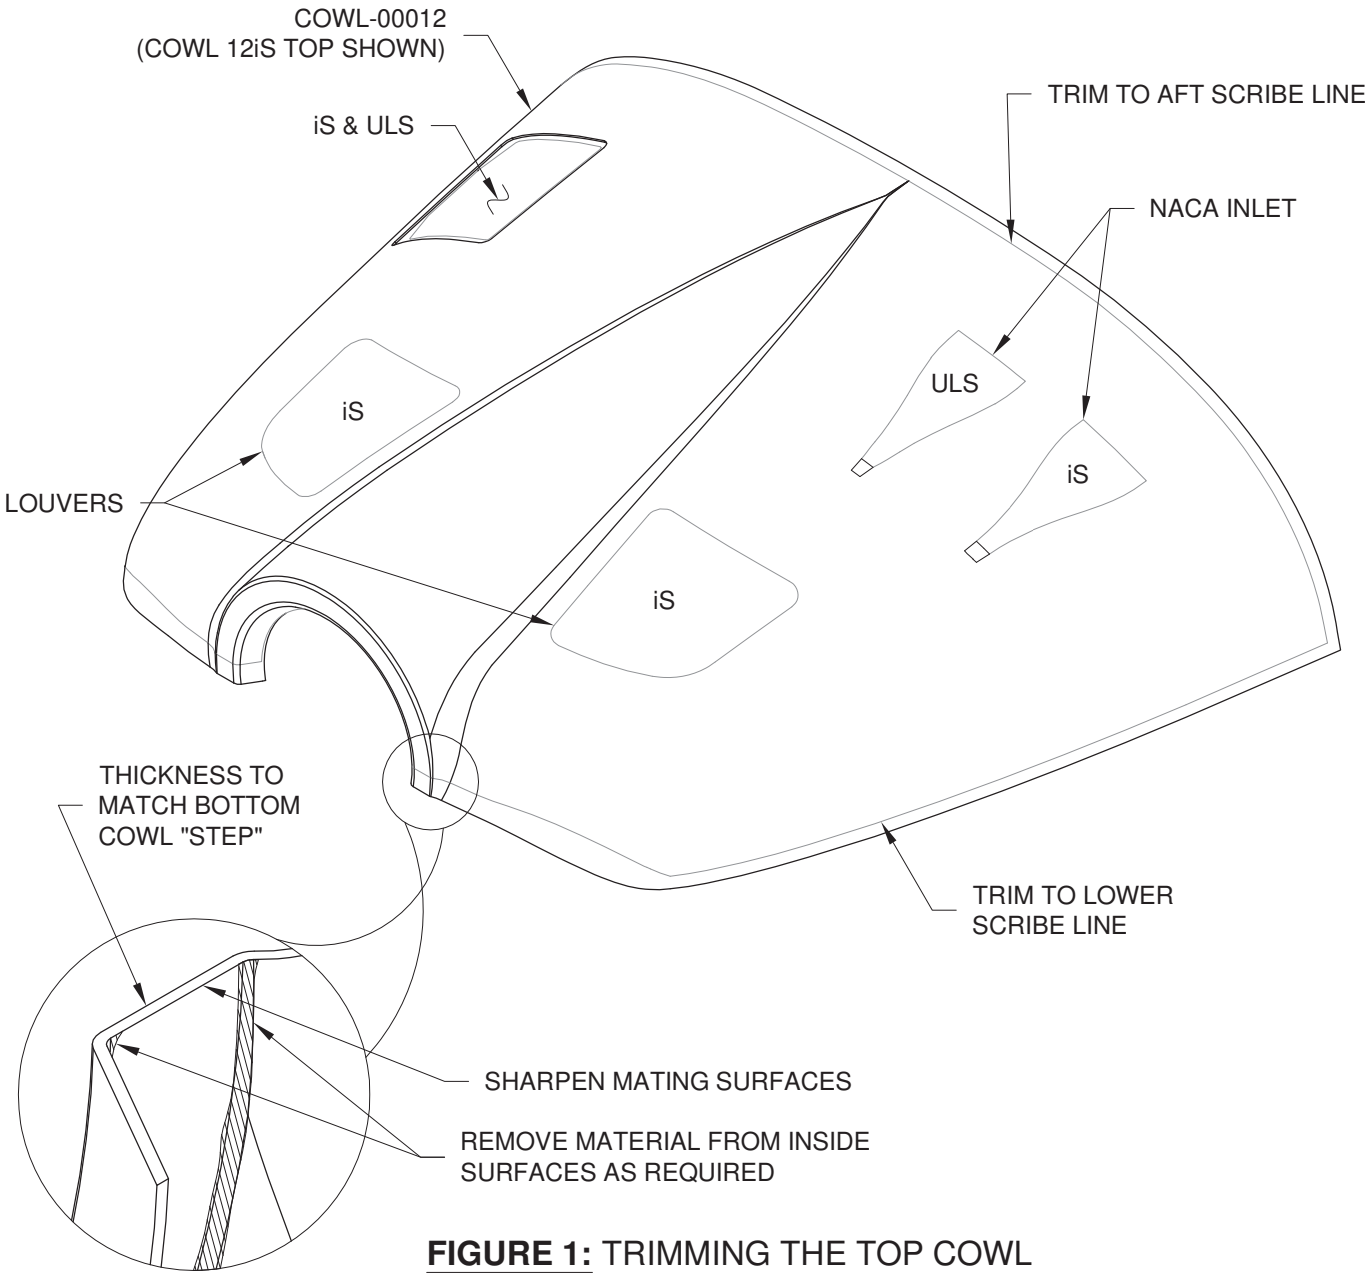

FIGURE 1: TRIMMING THE TOP COWL
Step 3: Trim then sand/file the edges of the top and bottom cowls as indicated in Figures 1 and 2. A long straight sanding block with 80-grit sandpaper works well for this.
Step 4: For the inlets/cutouts, remove material up to the scribe lines corresponding to your particular engine model (iS or ULS) as indicated in Figures 1 and 2. Except where noted, subsequent figures in this section will depict the iS cowl.
Step 6: Clean up and sharpen the mating surfaces of the top and bottom cowls around the spinner cutout by removing any excess material. The thickness of the top cowl should match the width of the "steps" in the bottom cowl. See the detail views in Figures 1 and 2.